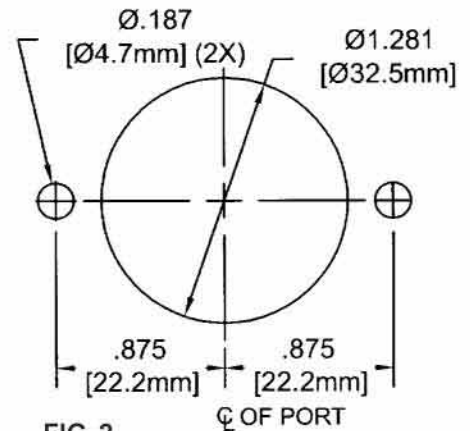

FIG. 2
**7.1. PANEL MOUNTING OF RH PUMP HEADS.** Two threaded holes (#8-32) are provided on the back side of each RH pump head for panel mounting purposes. A bearing adjustment access hole is also required. Each panel mount layout should, therefore, provide the three holes as shown in fig. 2. below.